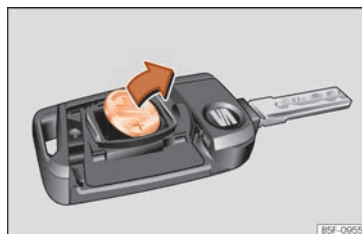

Fig. 90 Vehicle key: removing the battery.
- Extract the battery from the compartment using a suitable thin object »» Fig. 90.
- Place the new battery in the compartment as shown »» Fig. 90, pressing in the opposite direction to that shown by the arrow »» ❷.